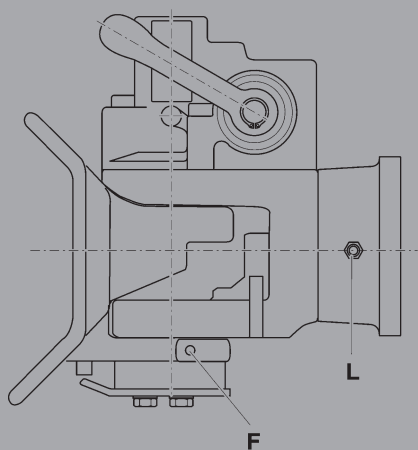

Fig. 4
- Lubricate lower funnel bearing (F) and bearing (L) with EP3 (intervals: 6 months or 50.000 km), see Fig. 4